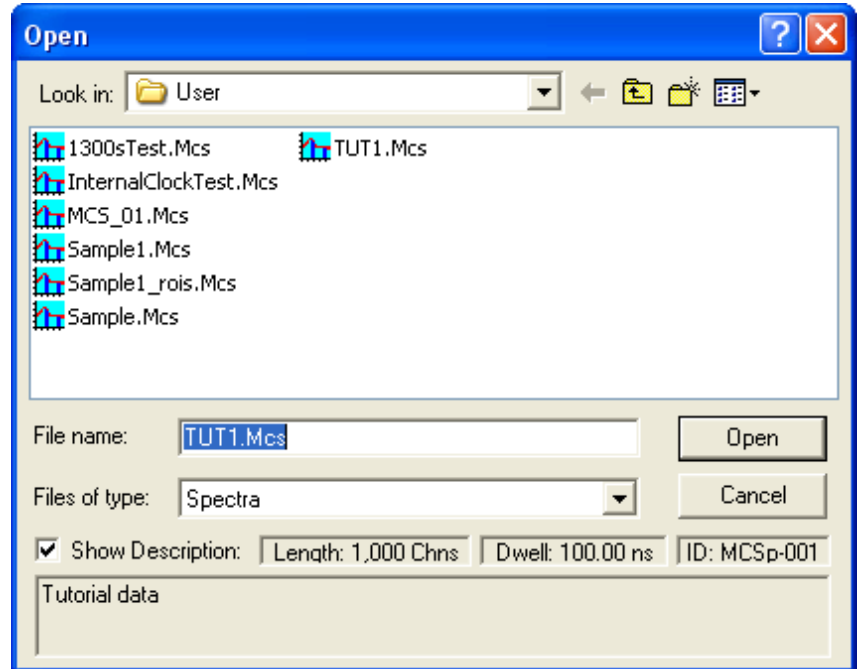

Fig. 14. Recall (retrieve) File TUT1.MCS.
- To recall your spectrum file into the buffer, select **Recall Data...** from the **File** menu. This will open the dialog shown in Fig. 14.